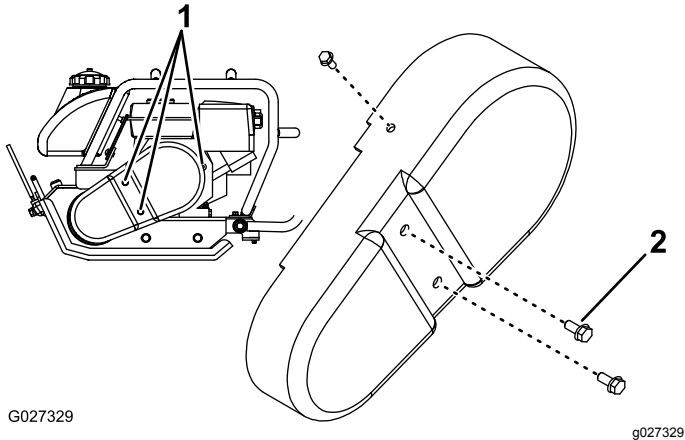
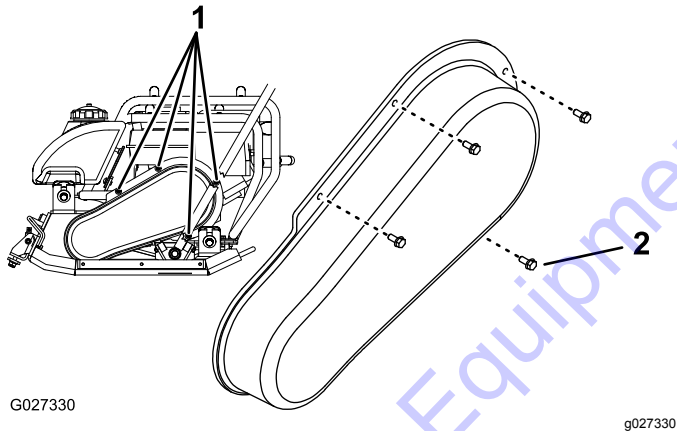

Figure 24
Figure 25
1. Remove the flanged-head bolts that secure the belt cover to the engine (Figure 24 or Figure 25).